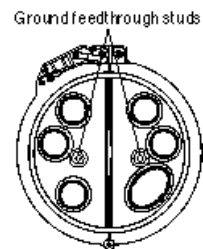

Figure 10
- Grounding using two ground feedthrough studs. (Figure 10)
Locate the two preinstalled twisted copper bonding cables attached to the D5 tray bracket. One end of each twisted copper bonding cable is attached to the metal tray bracket; the other end is an eyelet to which bond wires from cables will be attached with the supplied nut and bolt assembly. (Figure 10) Each twisted copper bonding cable can accommodate two bond wires from fiber optic cables. Cables are now bonded with the base, which can be externally grounded using feedthrough studs or through external ground wires.